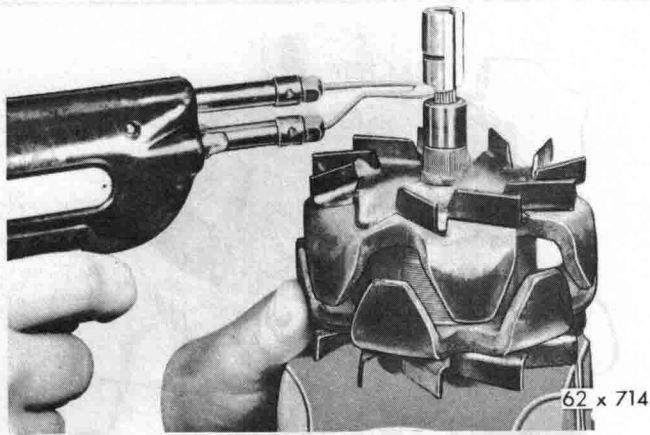

Fig. 49—Unsoldering Negative Lead at Slip Ring
(3) Raise the slip ring and carefully unsolder the rotor negative lead (Fig. 49). **DO NOT BEND** the lead wire.